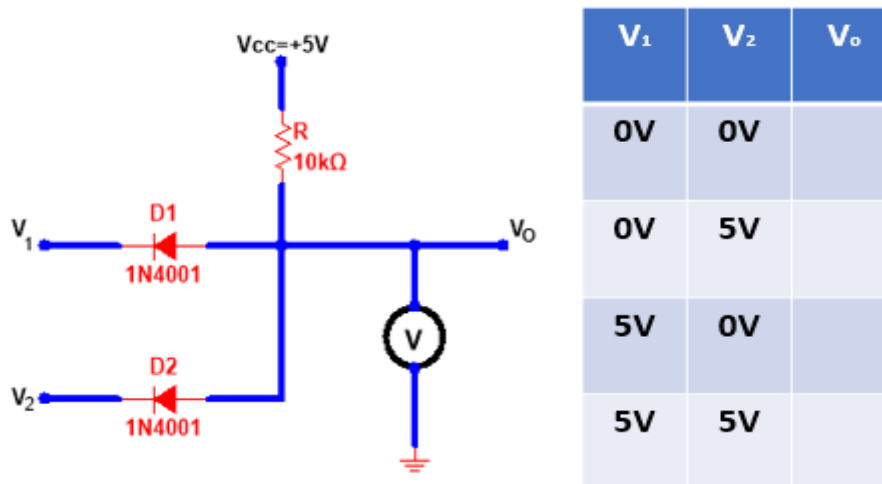

Figure 13: Practical AND Gate Circuit
2. Connect the AND gate circuit shown in Fig.13 and verify its truth table.